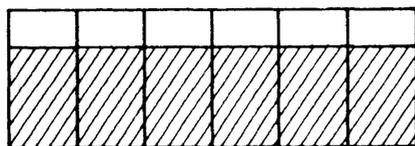

Figure 13
- ❑ 1. Get the cable labels described earlier. (See example in Figure 13.)